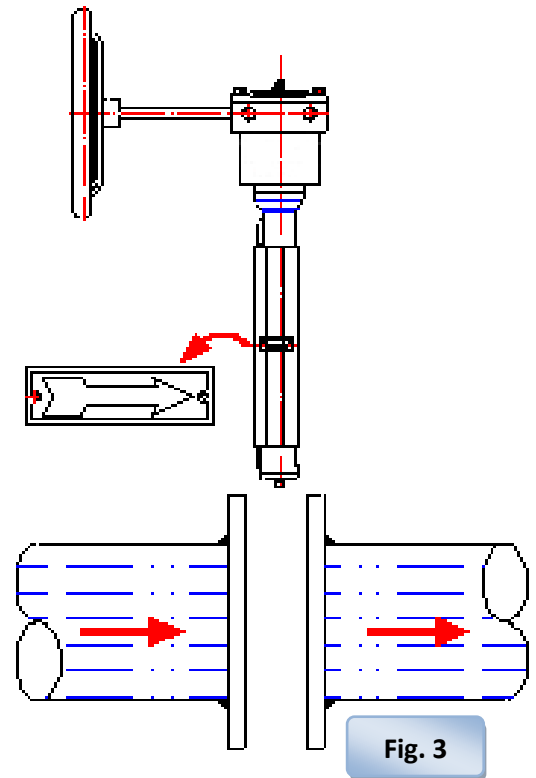

Fig. 3
- The arrow on the valve body indicates the preferred flow direction. It also indicates the high pressure side of the valve, obtaining the best closure performance. During installation the best valve position must be determined in order to utilize this feature. This may not necessary be the common flow direction of the system (Fig.3)